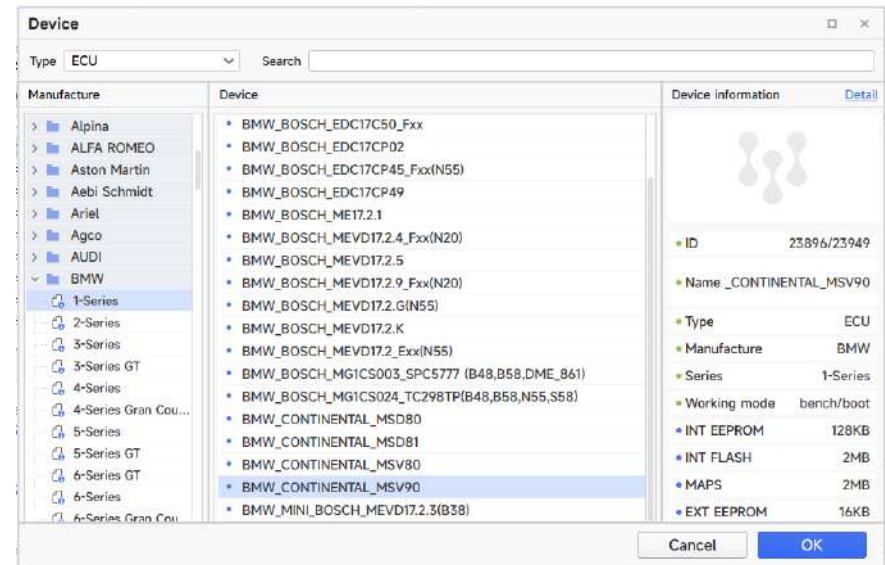

Figure 8.2.1
1. Select the module type 'ECU/BMW/1-Series' menu, and select MSV90 as shown in Figure 8.2.1.